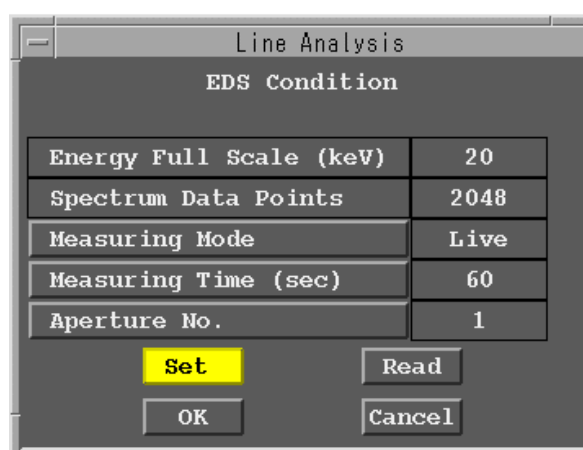

Fig. 14 EDS Condition window
- ◆ Select **Measurement–EDS Condition** in the Line Analysis function window. The EDS Condition window opens as shown in Fig. 14.